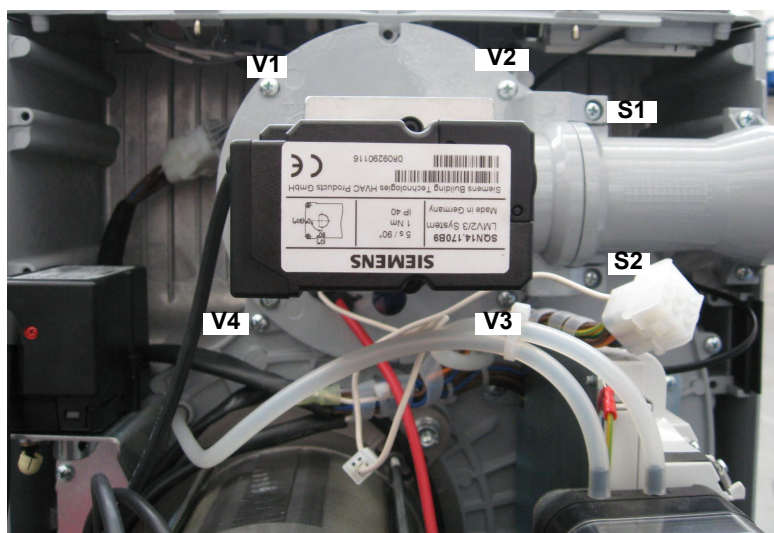

Fig. 31
- Removal, examination and cleaning of the combustion head (Fig. 31 on).
- 1 Remove the 4 screws V1, V2, V3, V4 and the couple of screws S1 and S2 (Fig. 31).